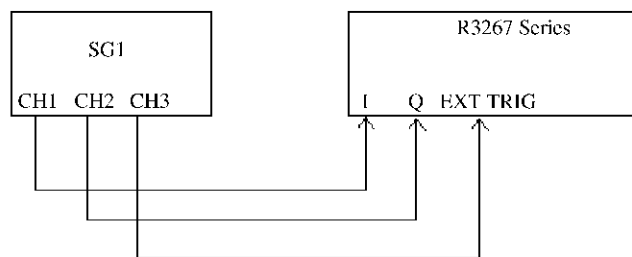

Figure 6-12 Setup of QPSK Measurement (IQ Input)
1. Connect equipment as shown in Figure 6-12.